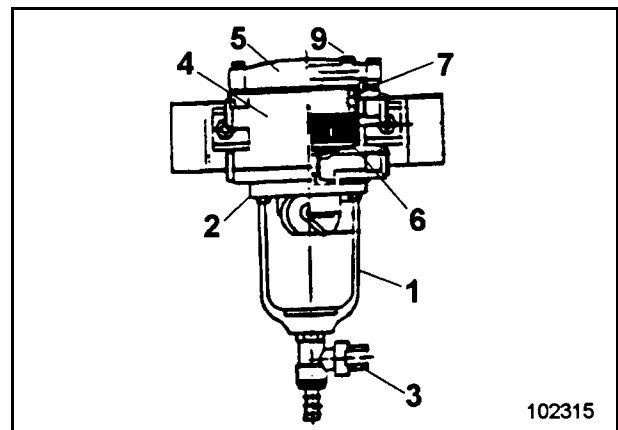

Fig. 3-51:
- Loosen venting plug (9, Fig. 3-51:) and leave drain valve (3) open until there is no more water in the diesel fuel flowing out of the valve.